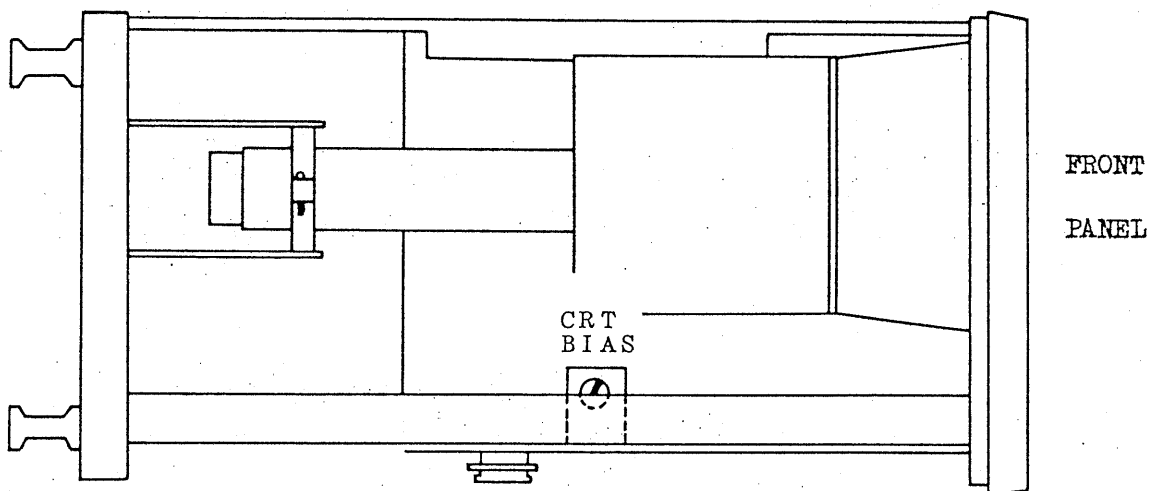

Fig. 23
- (1) Operate the oscilloscope in the single-channel mode, the TIME/DIV switch in the 1 msec position and display a trace on the CRT screen.
- (2) Set the white mark of the INTEN knob in the upright (noon high) position and so adjust the CRT BIAS control (see Fig. 23) that the trace is displayed on the screen with a barely discernible intensity.